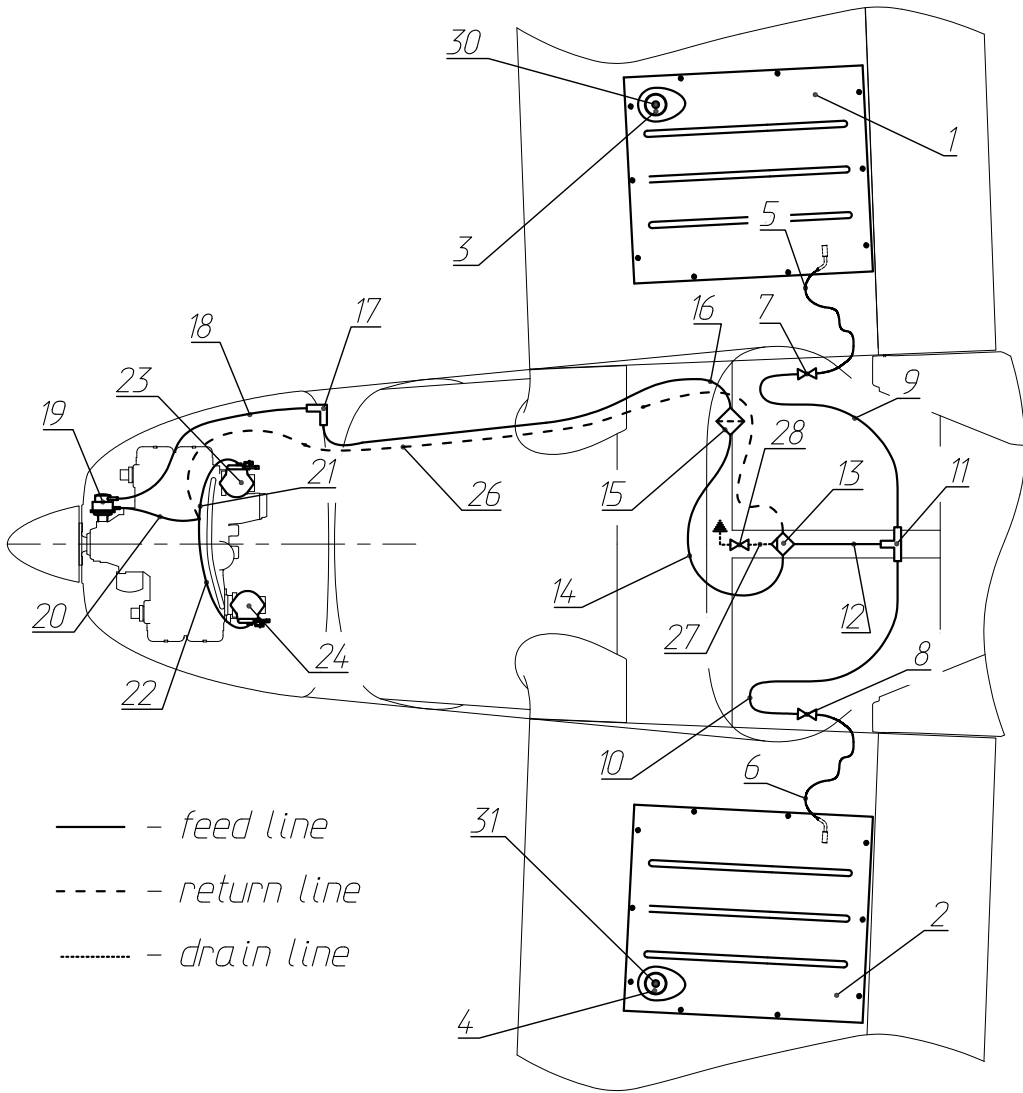

Fig. 3. Fuel system schematic
The fuel system (see **Fig. 3**) includes two wing fuel tanks (1,2), fuel lines (5,6,9,10,12,14,16,18,20,21,22), two shut-off valves (7,8), fuel sediment collector (13), fuel filter (15), fuel pump (19), return line (26), drain line (27) and drain valve (28). The fuel tanks (11.9 (15.05) US gal each) are located at the wing root between the spar and aft web. The fuel inlet 3(4) is located at the front outboard corner of the tank. The inlet cover has vent fitting 30(31) connecting the tank volume free of fuel to the atmosphere. The fuel shut-off valves (7,8) are located on the vertical beams of the frame No.3, on the left and right sides respectively. The shut-off valve is open when its handle is set vertically and closed when the handle is set horizontally. The left and right fuel tank is connected with the fuel lines to the left and right fuel shut-off valve respectively. Further two fuel lines are joined into a single one with the T-connector (11), which is located near the web of the frame No.4 at its bottom part. Then fuel goes to the fuel sediment collector (13). The top outlet of the fuel sediment collector is connected to the fuel filter (15) located on the right side behind the main landing gear beam. The fuel filter can be inspected visually through a window in the protecting cover of the aileron control cables. The bottom outlet of the fuel sediment collector is connected to the drain valve (28) with a drain line (27). The drain valve allows draining fuel through the hole in the bottom rear panel of fuselage. The valve handle is accessible outside of the fuselage. After the fuel filter the fuel line (16) runs through the main landing gear beam, seat beam along the right-hand side of fuselage to the firewall where it is connected with a 90° bulkhead fitting (17), that is passing through the hole in the firewall, to the fuel line of the engine (18) and is connected to the inlet of the fuel pump (19) located on the right-hand side of the engine gearbox. The pump outlet is connected with the fuel lines (20,21,22) to the carburetors (23, 24). The excessive fuel is returned through the line (26) to the sediment collector (13).